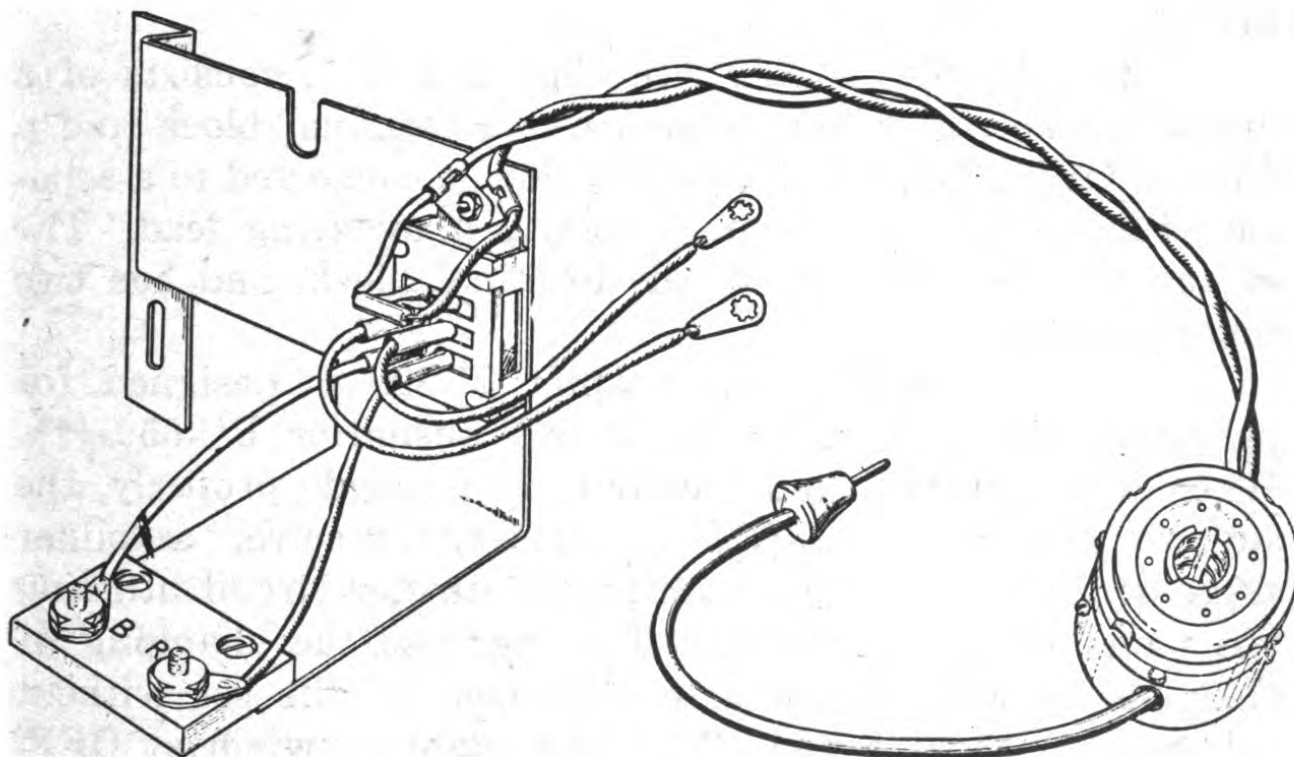

FIG. 3—ADAPTER M-394, BOTTOM VIEW
(1) Take the receiver-transmitter from its case, by removing all the screws around the edge of the panel and pulling the chassis forward.
(2) Use a $\frac{5}{16}$ " open-end wrench to disconnect the two leads attached to the panel meter of the set, and then connect these leads to terminals B and R of Adapter M-394, Fig. 3, attaching the red lead to R.
(3) Take the two separate leads of Adapter M-394, Fig. 3, and connect them to the meter terminals, attaching the red lead to the meter terminal nearest transformer T_6 .
(4) Remove the two screws from the edge of the top cover of battery Box BX-4 that contains Battery BA-41, and mount the bracket of Adapter M-394 there, using the original screws.